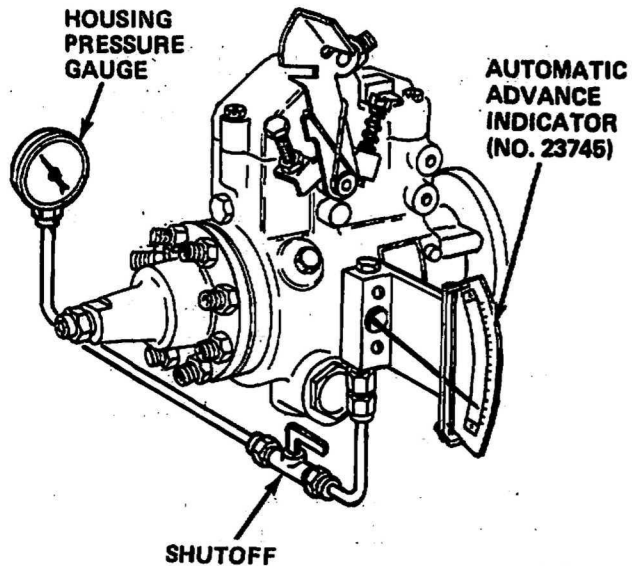

**Figure 5.4. Automatic Advance Indicator Assembly (No. 23745)**
8. Cam movement readout device (Figure 5.4) is required to measure cam advance. The advance indicator assembly (Stanadyne No. 23745) measures cam advance movement in 1/4 degree increments.